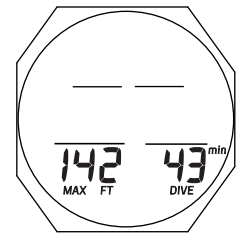

Fig. 77 - DECO STOP ALT 1
**Deco Stop Alt 1**, information includes (Fig. 77) -